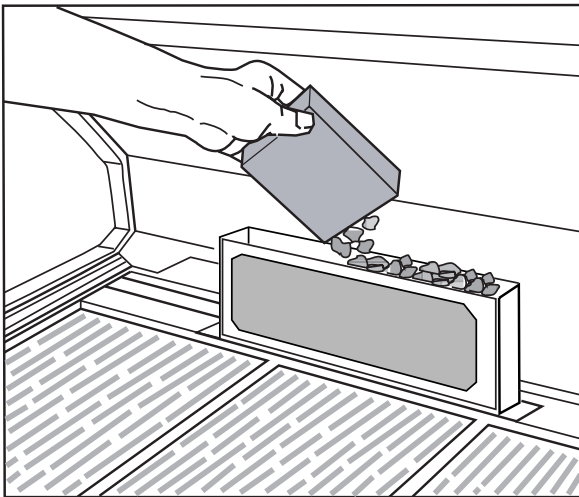

Fig. 14 Rotisserie Burner Smoker Box
3. Remove the lid from the Smoker Box with a pair of tongs, or while wearing an insulated protective mitt and place some of the presoaked material in it (see Fig. 14).
- The **rotisserie Smoker Box**, standard with model CF9080, allows you enhance the flavors of foods by slow smoking with herbs, or a variety of wood chips or chunks (see Fig. 14).